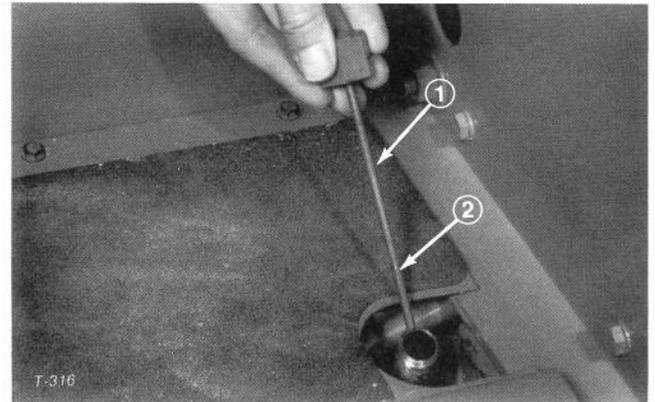

Figure 77
7. Remove dipstick from axle filler tube and fill axle to proper level (Fig. 77). Reinstall the dipstick.